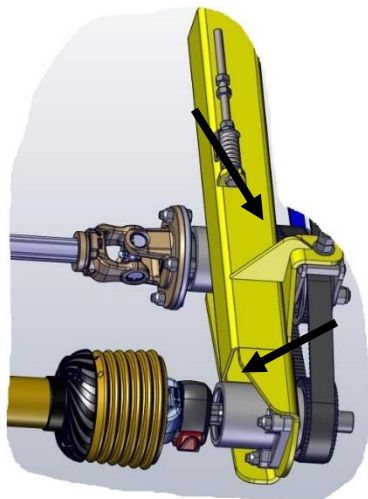

Figure 56
1. Remove the right-hand drive shaft that connects the GT case to the combine. Remove the knife drive shaft by removing the 4 mounting bolts on each end of the shaft. Figure 56